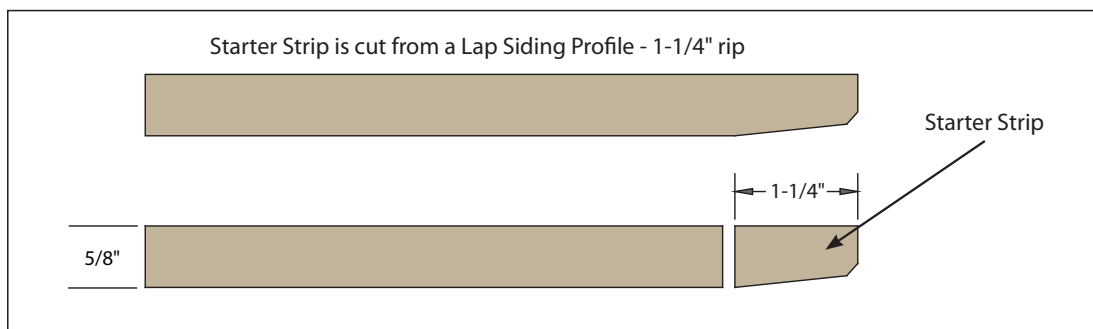

Fig. 32
- Rip 1-1/4" wide starter strip from your lap siding plank to ensure consistent lap boards angle (**Fig. 32**)